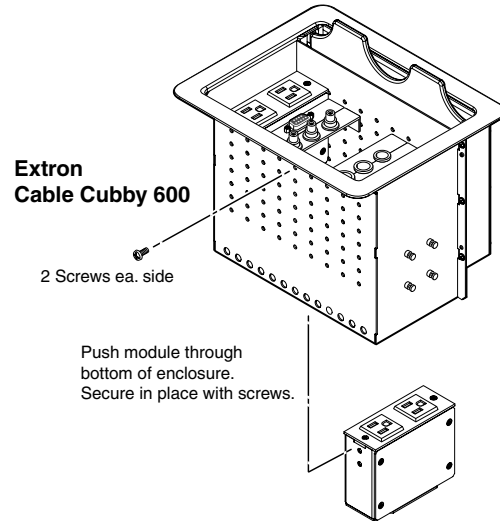

Figure 3-7 — Installing the power module
- From the underside of the Cable Cubby, gently push the additional power module into the desired position at the desired elevation. Secure the power module into position with the included four Phillips head screws (figure 3-7).